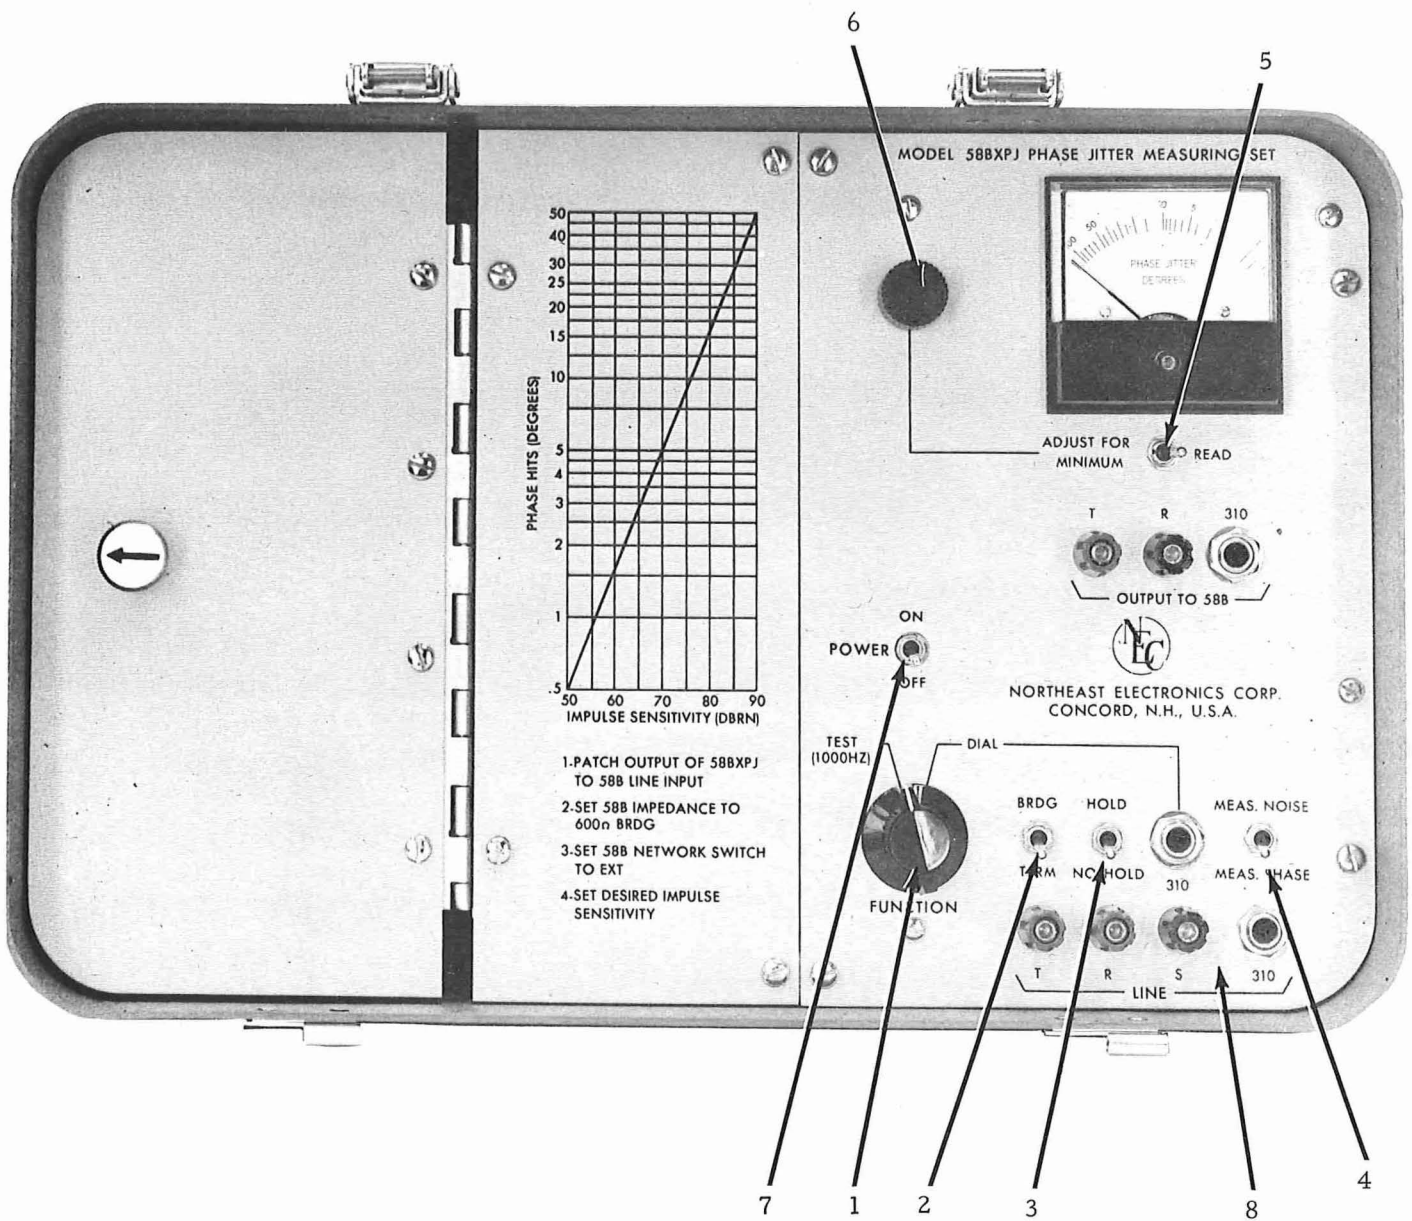

Figure 3-1 Front Panel Controls
3.1 FRONT PANEL CONTROLS (Refer to Fig. 3-1).